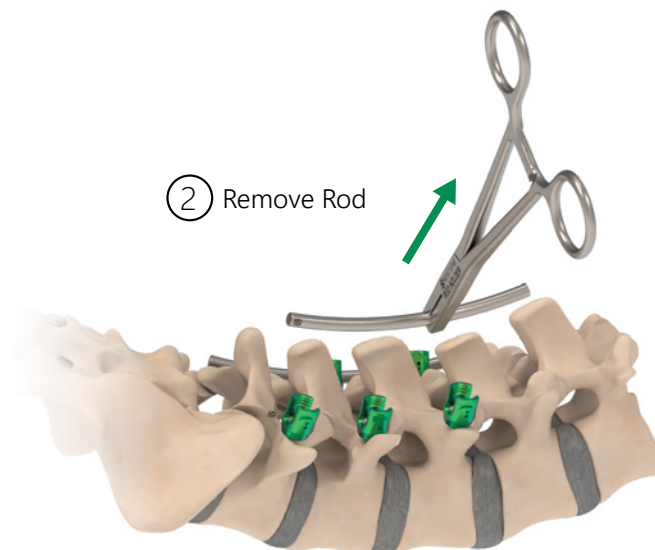

Figure 14.2
2. Once all the Set Screws have been removed, use a Rod Holder to grasp the Rod to extract (Figure 14.2).